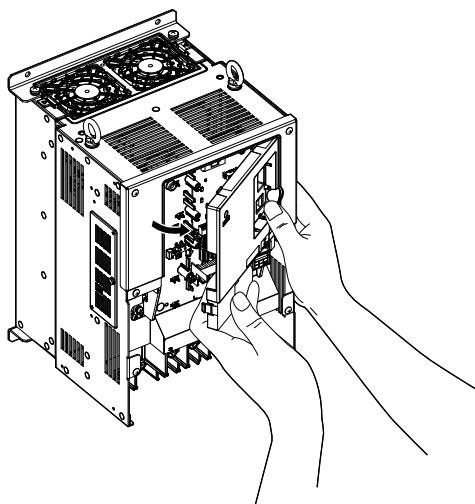

Figure 3.18 Remove the Front Cover (2A0010 to 2A0415 and 4A0058 to 4A1200)
- 4.** Unhook the left side of the front cover then swing the left side towards you as shown in Figure 3.18 until the cover comes off.